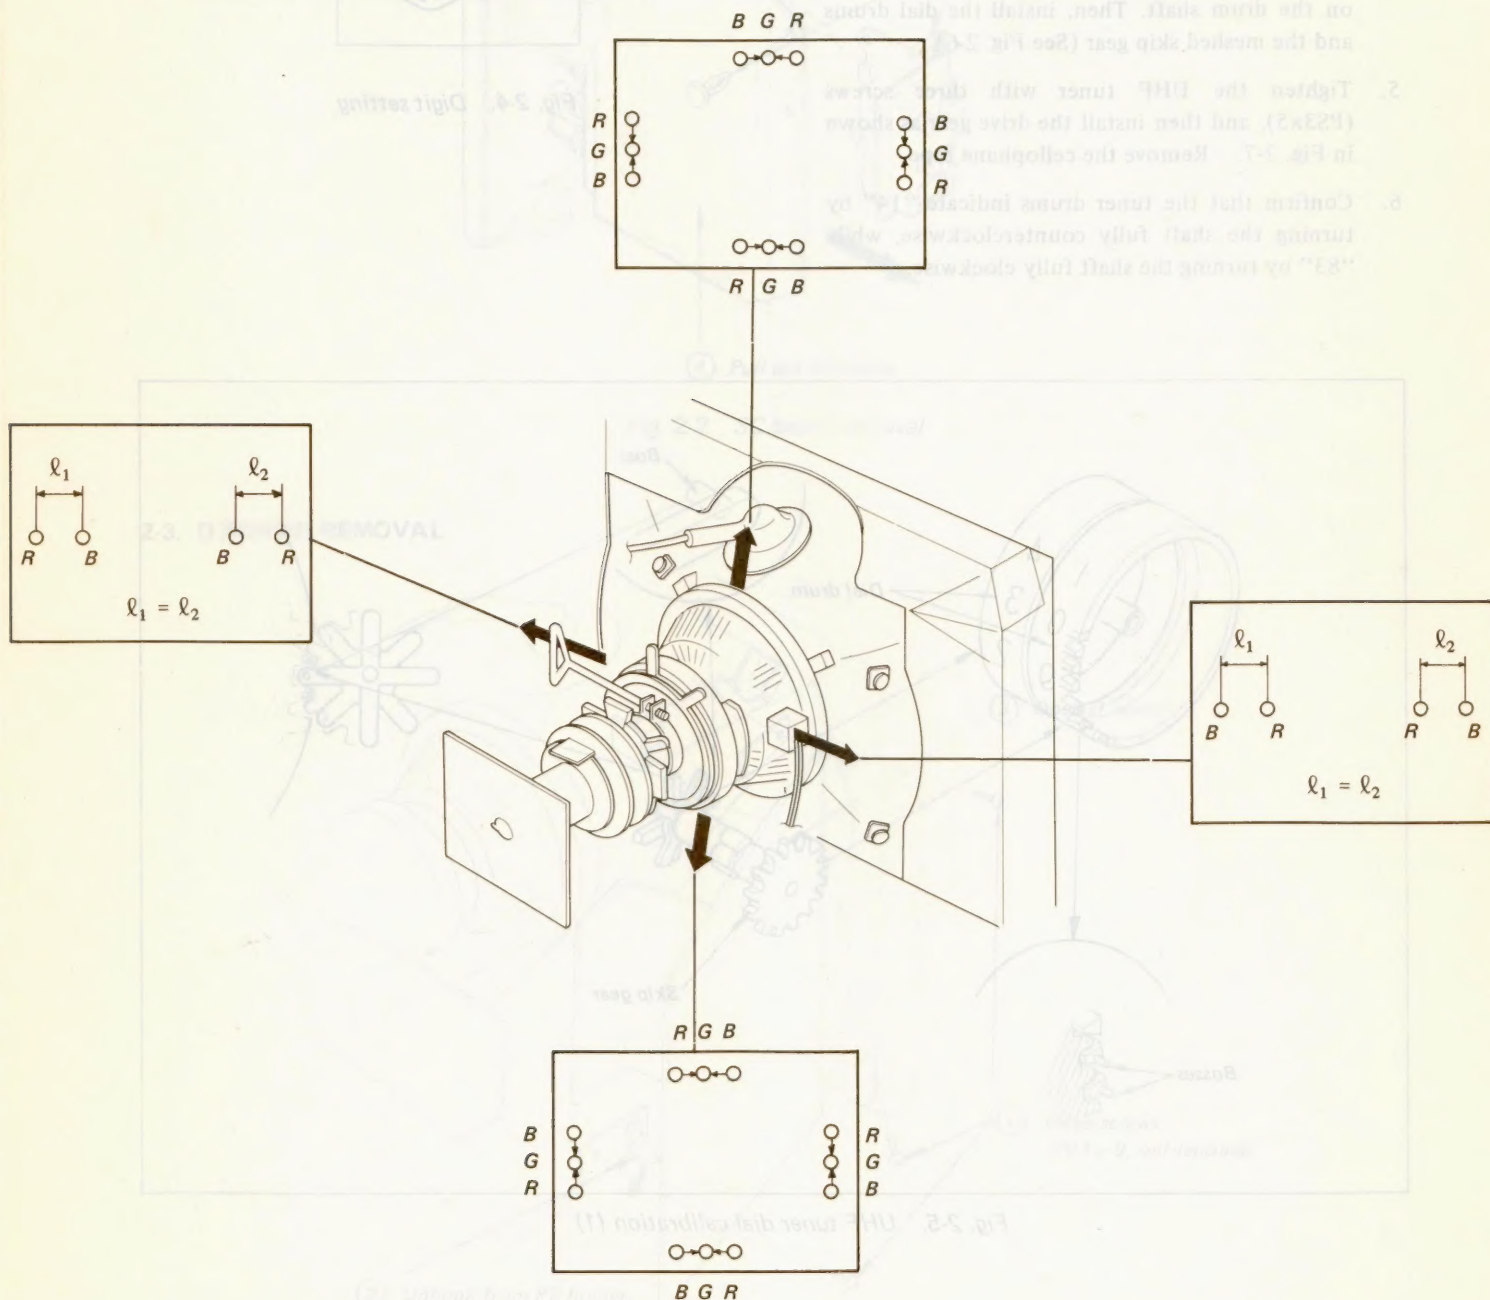

Fig. 3-5.
3. Move the deflection yoke for best convergence as shown in Fig. 3-5.